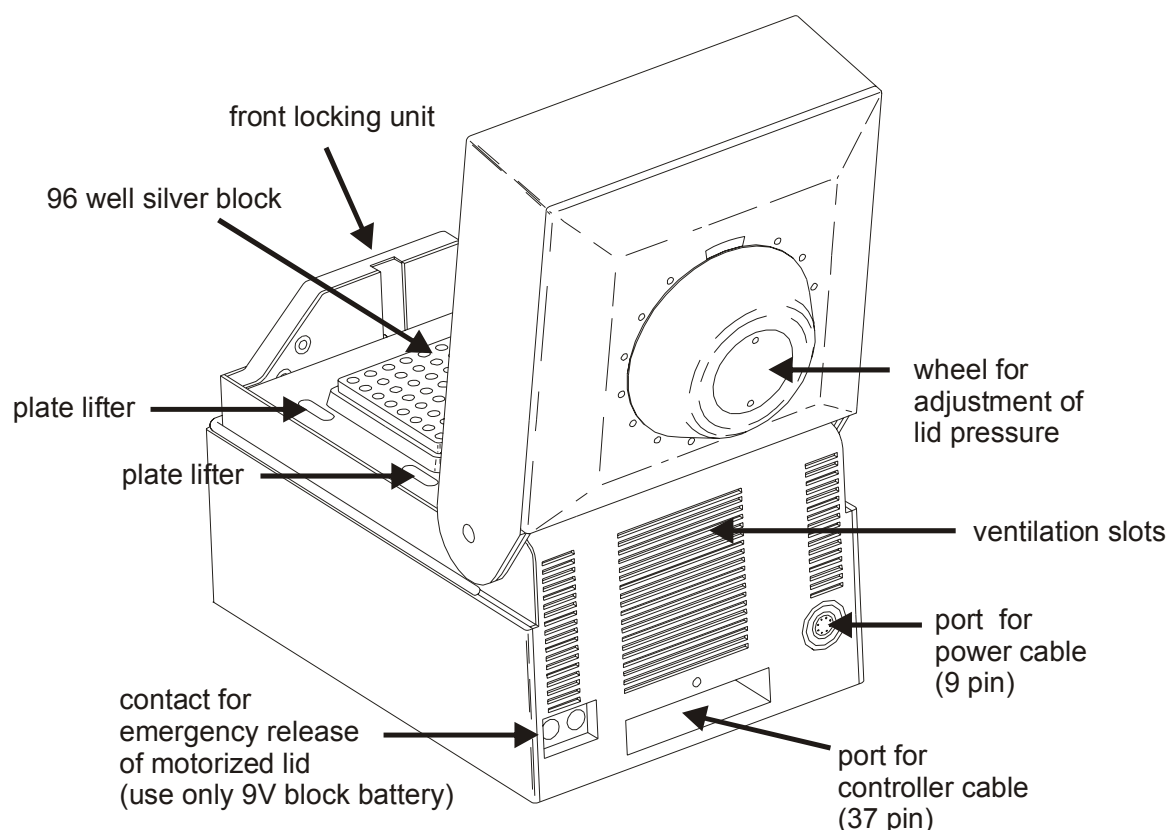

Figure 5: TRobot rear view.
- Connections on the back of the Thermocycler module are shown in figure 5 (see chapter 4.2).